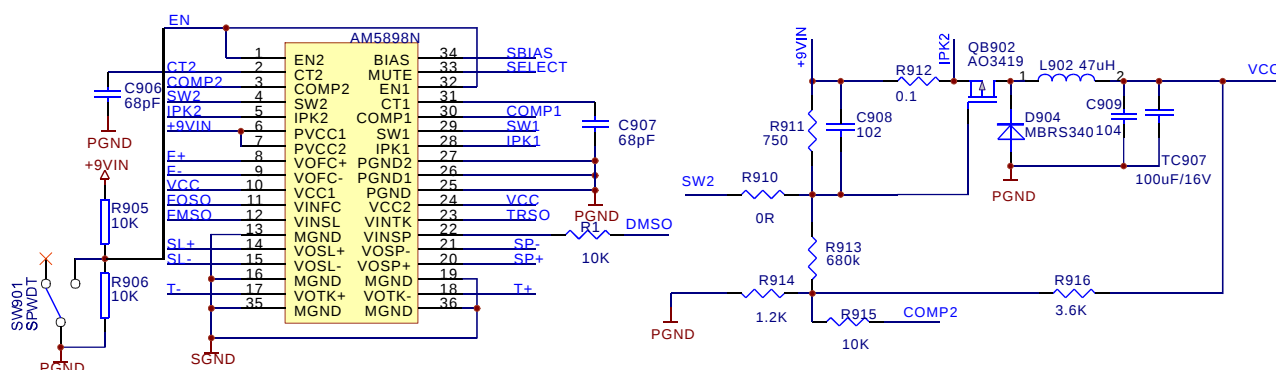

Figure 3.2.5.1 DC-DC switch circuit diagram
1. DC-DC switch circuit is shown as in the following figure 3.2.5.1: